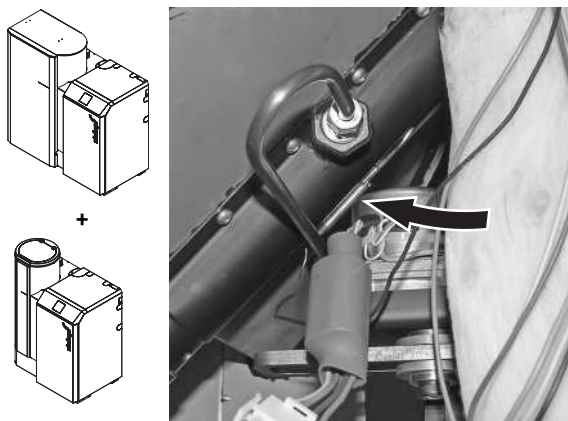

Fig. 48 Insert the sensor for the safety thermostat auger tube as far as it will go
- ▶ Insert the sensor for the safety thermostat auger tube into the holder completely – Fig. 48